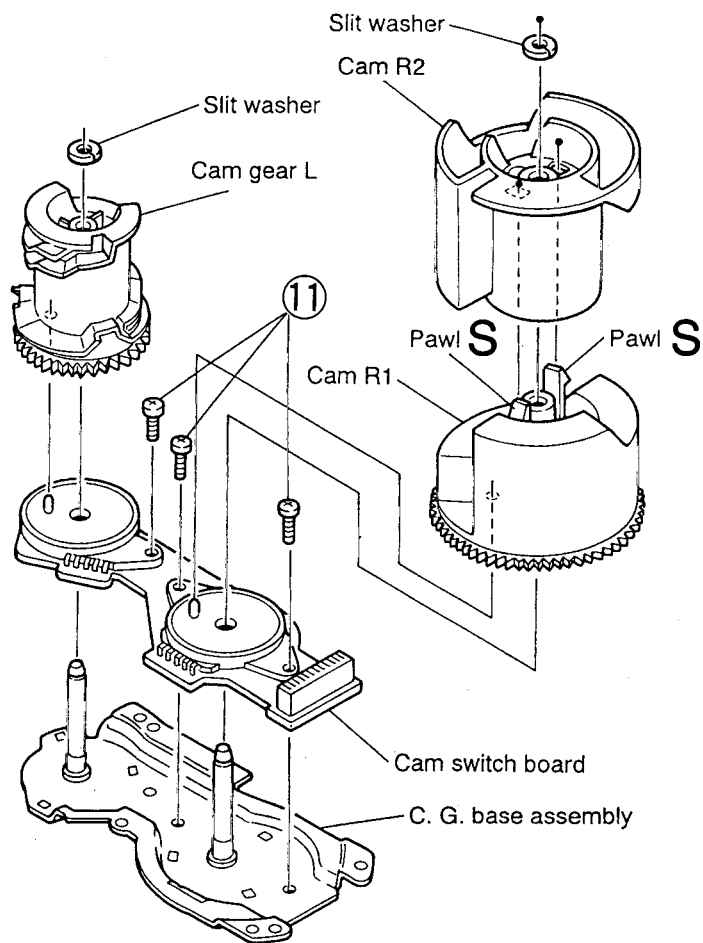

Fig.5-57
■ **Removing the cams R1/R2 assembly and cam gear L** (See Fig. 5-57)
(See Figs. 5-57 and 5-58)